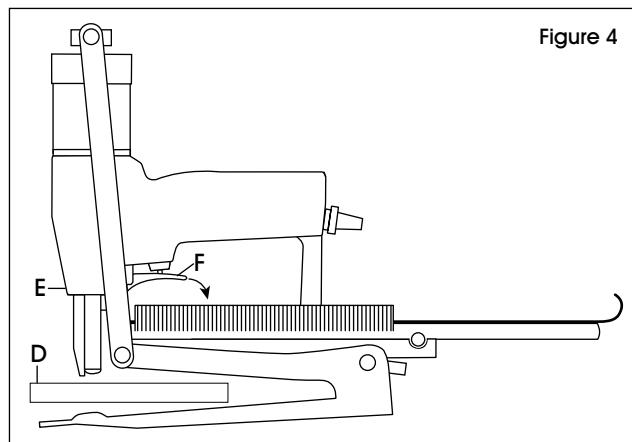

Figure 4
2. Place the item to be stapled (D) below the stapler head (E). Pull the trigger (F). (See Figure 4)